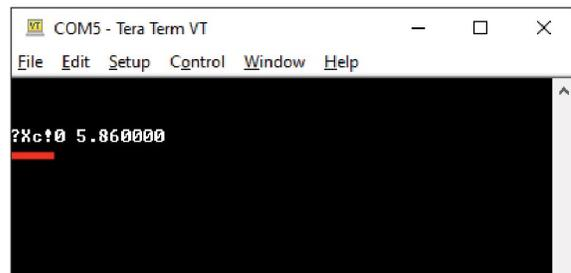

Figure 32. Verify CAL Factor value
- Enter the ?Xc! command (Figure 32) to verify the new CAL Factor that was entered in step 11.